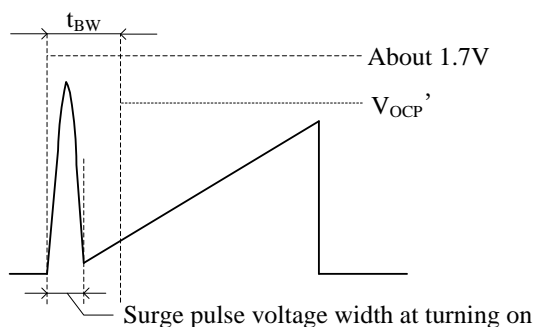
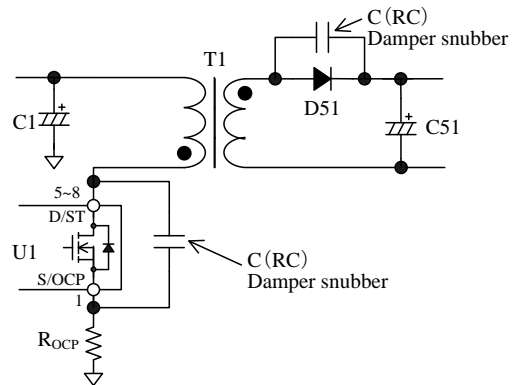

Figure 9-9 S/OCP pin voltage
Figure 9-10 Damper snubber
During Leading Edge Blanking Time, the OCP threshold voltage becomes about 1.7 V which is higher than the normal OCP threshold voltage as shown in Figure 9-9. Changing to this threshold voltage prevents the IC from responding to the surge voltage in turning-on the power MOSFET. This function operates as protection at the condition such as output windings shorted or unusual withstand voltage of secondary-side rectifier diodes.
When power MOSFET turns on, the surge voltage width of S/OCP pin should be less than t_{BW} , as shown in Figure 9-9. In order to prevent surge voltage, pay extra attention to R_{OCP} trace layout (refer to Section 10.2). In addition, if a C (RC) damper snubber of Figure 9-10 is used, reduce the capacitor value of damper snubber.